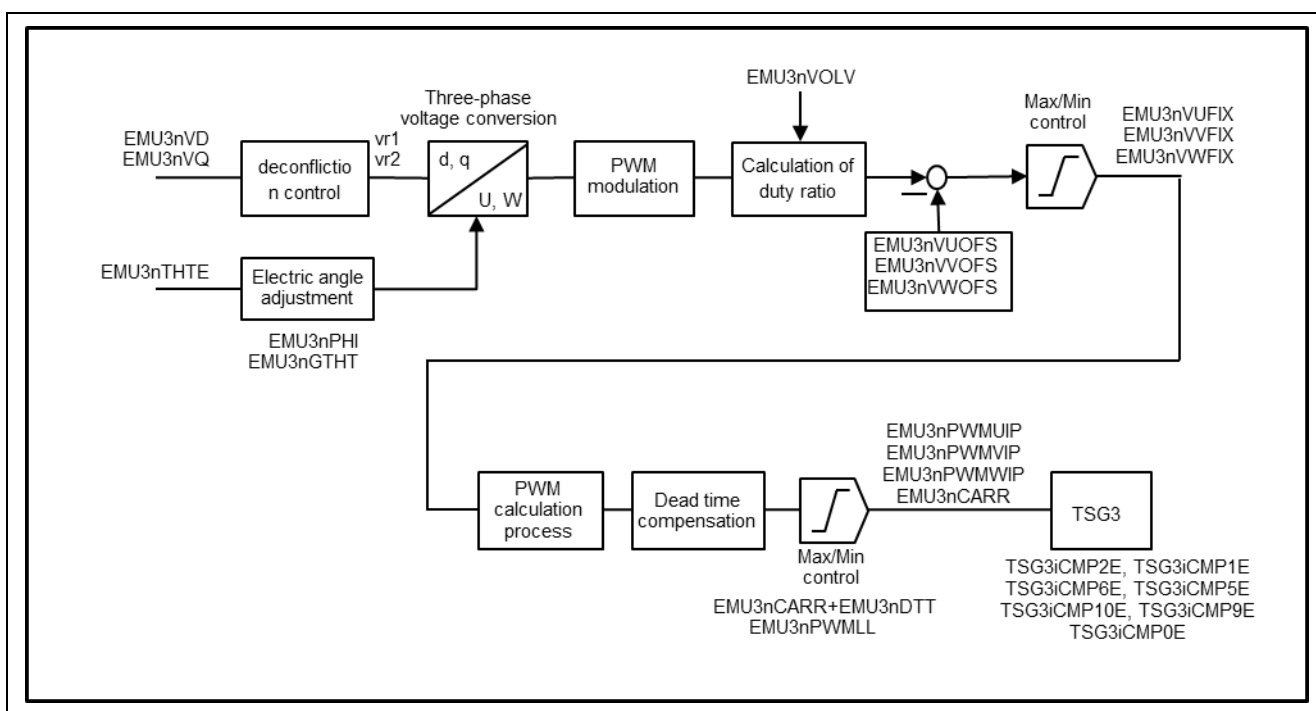

Figure 2-5 Block diagram of PWM IP
- The PWM IP uses the d and q-axis voltages calculated by the PI control IP to obtain the output voltages of the U/V/W phases, and calculates the duty ratio and compare register values for each phase in the PWM waveform output from these voltage values. When PWMIPTRG bit of EMU3nIPTRG register is set to "1", the PWM IP is automatically activated when the PI IP process is completed. Figure 2-5 shows a block diagram of the PWM IP.